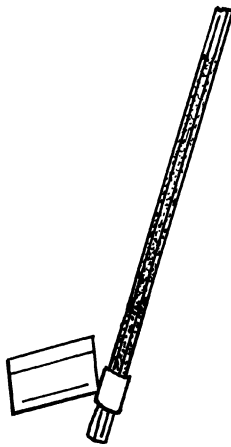
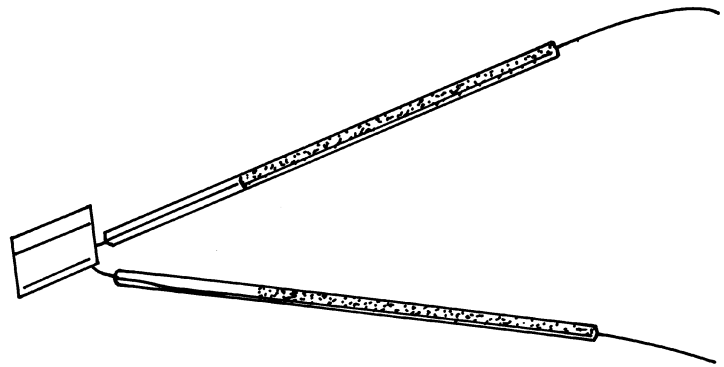

Figure 6a.
Figure 6b.
11. The tube bundles are held together with shrink-wrap at the bottom end and are connected in pairs with nylon thread. Cut away the shrink-wrap with a scalpel blade (Figure 6a). Care must be taken to not cut the threads. Separate tube gel pairs by cutting with a scalpel blade or scissors. Care must be taken in order to avoid breaking the tubes. THEY ARE EXTREMELY FRAGILE (Figure 6b).